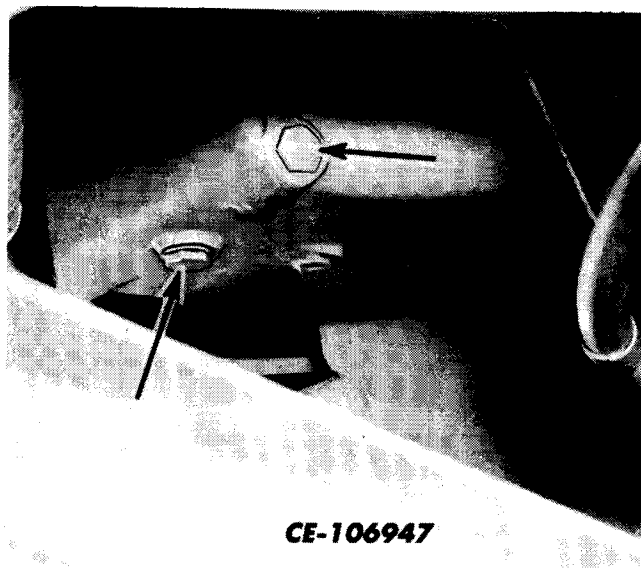

Fig. 12
2. Remove the crankcase drain plugs (Fig. 12). After all lubricant has drained, install and tighten all drain plugs.